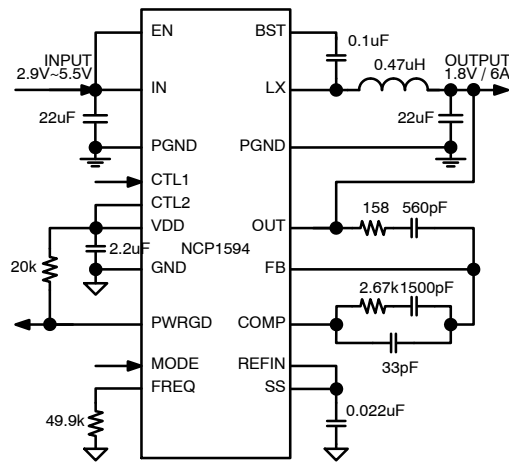

Figure 1. Functional Block Diagram
**ELECTRICAL CHARACTERISTICS** (VIN = VEN = 5 V, CVDD = 2.2 μF, TA = TJ = -40°C to 85°C, typical values are at TA = 25°C, circuit of Figure 1, unless other noted)
**ELECTRICAL CHARACTERISTICS** ( $V_{IN} = V_{EN} = 5\text{ V}$ ,  $C_{VDD} = 2.2\ \mu\text{F}$ ,  $T_A = T_J = -40^\circ\text{C}$  to  $85^\circ\text{C}$ , typical values are at  $T_A = 25^\circ\text{C}$ , circuit of Figure 1, unless other noted)